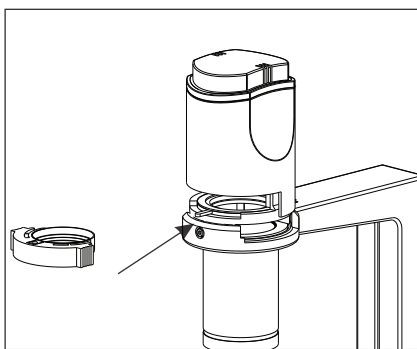

Fig. 10
3. The Blue filter is placed in the filter holder cartridge. The cartridge can be easily fitted in the lamp house. Hold the cartridge with your index finger and thumb and slide it in. See fig 10.